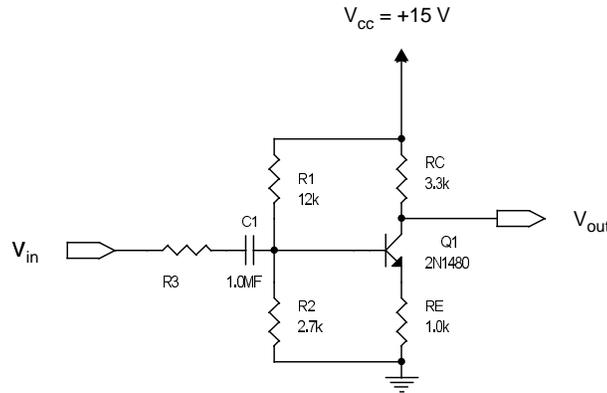

Figure 1: Basic Single Transistor Amplifier
So far we have been concerned only with the properties of the transistor itself. In practical amplifier applications, it is desirable to design a circuit whose properties are predictable, i.e. which don't depend strongly on your accidental choice of a specific transistor. In Fig. 1 we show a very common configuration of base and emitter
5. Next connect the circuit as shown schematically in Fig. 1. Be sure to check the transistor pin-out diagram at the end of the transistor data sheet. (**Transistors** are normally drawn as if you were **looking at the transistor leads from the lead side** while integrated circuits are normally drawn as if you were looking at the pins from above the circuit board, ie from the side away from the IC pins.) Measure  $V_{CE}$ ,  $V_E$ ,  $V_B$ , and  $V_{BE}$  and compare with your calculated values. (They should agree within  $\sim 10\%$ ).